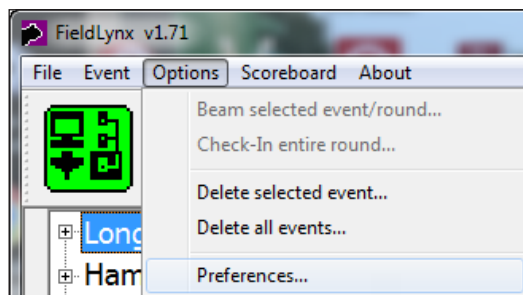

Figure 67: FieldLynx Options Menu
3. To access the connection settings in FieldLynx, open the software and go to **Options > Preferences** (**Figure 67**).